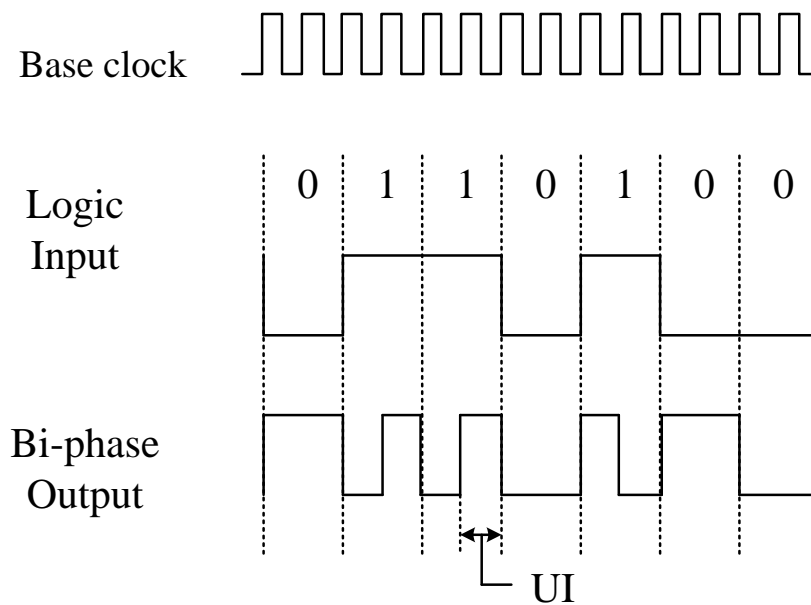

Fig. 5.1.2 S/PDIF biphasemark-code (BMC).
The S/PDIF data signal is coded by the “biphase-mark-code,” which is a kind of phase modulation. It is illustrated in Fig. 5.1.2. The base clock of a S/PDIF signal is twice the bit rate, and the frequency of the base clock is only determined by the sampling rate. The period of the base clock is called the Unit interval (UI). For example, for a 48KHz 2-channel S/PDIF signal, the frame rate is also 48KHz, so a frame period is 20.833us, and a subframe period is 10.416us. A subframe contains 32-bit slot, so a bit slot period is 325.52ns. As we said above, the base clock is twice the bit rate. Therefore, the period of the base clock is 162.76ns. In other words, the frequency of base clock is 6.144 MHz. Bi-phase coding can prevent PCM data from DC isolated and insensitive to level polarity. A maximum up to 24 data bits can be transmitted by the S/PDIF signal, and the sequence is from LSB to MSB.